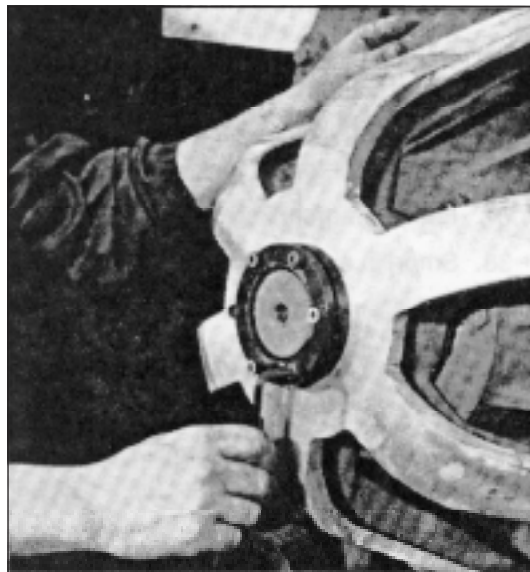

Figure 20. Installation of the belt pulley
48. Install the belt pulley. Tighten all six screws alternately to 13 Nm, see figure 20.